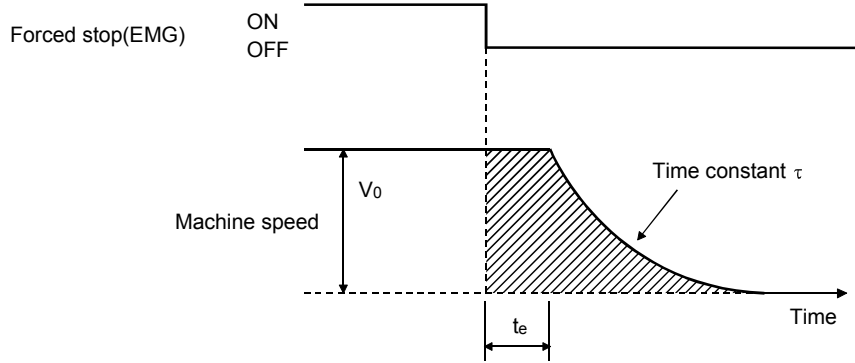

Fig. 13.3 Dynamic brake operation diagram
(1) Calculation of coasting distance
Fig. 13.3 shows the pattern in which the servo motor comes to a stop when the dynamic brake is operated. Use Equation 13.2 to calculate an approximate coasting distance to a stop. The dynamic brake time constant τ varies with the servo motor and machine operation speeds. (Refer to (2)(a), (b) in this section.)